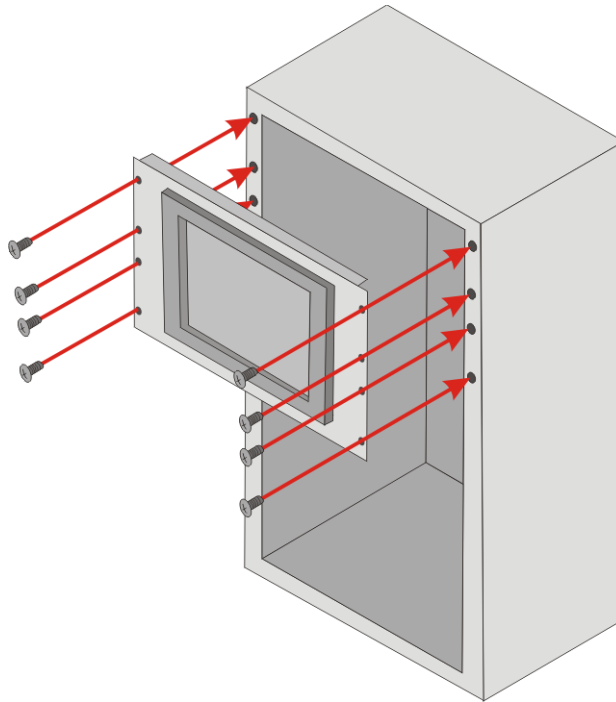

Figure 4-32: Install into a Rack/Cabinet
Step 4: Slide the PPC-3708A-N270 flat panel PC with the attached rack/cabinet bracket into a rack or cabinet (**Figure 4-32**).
Step 5: Once the flat panel PC with the attached rack/cabinet bracket has been properly inserted into the rack or cabinet, secure the front of the rack/cabinet bracket to the front of the rack or cabinet (**Figure 4-32**).